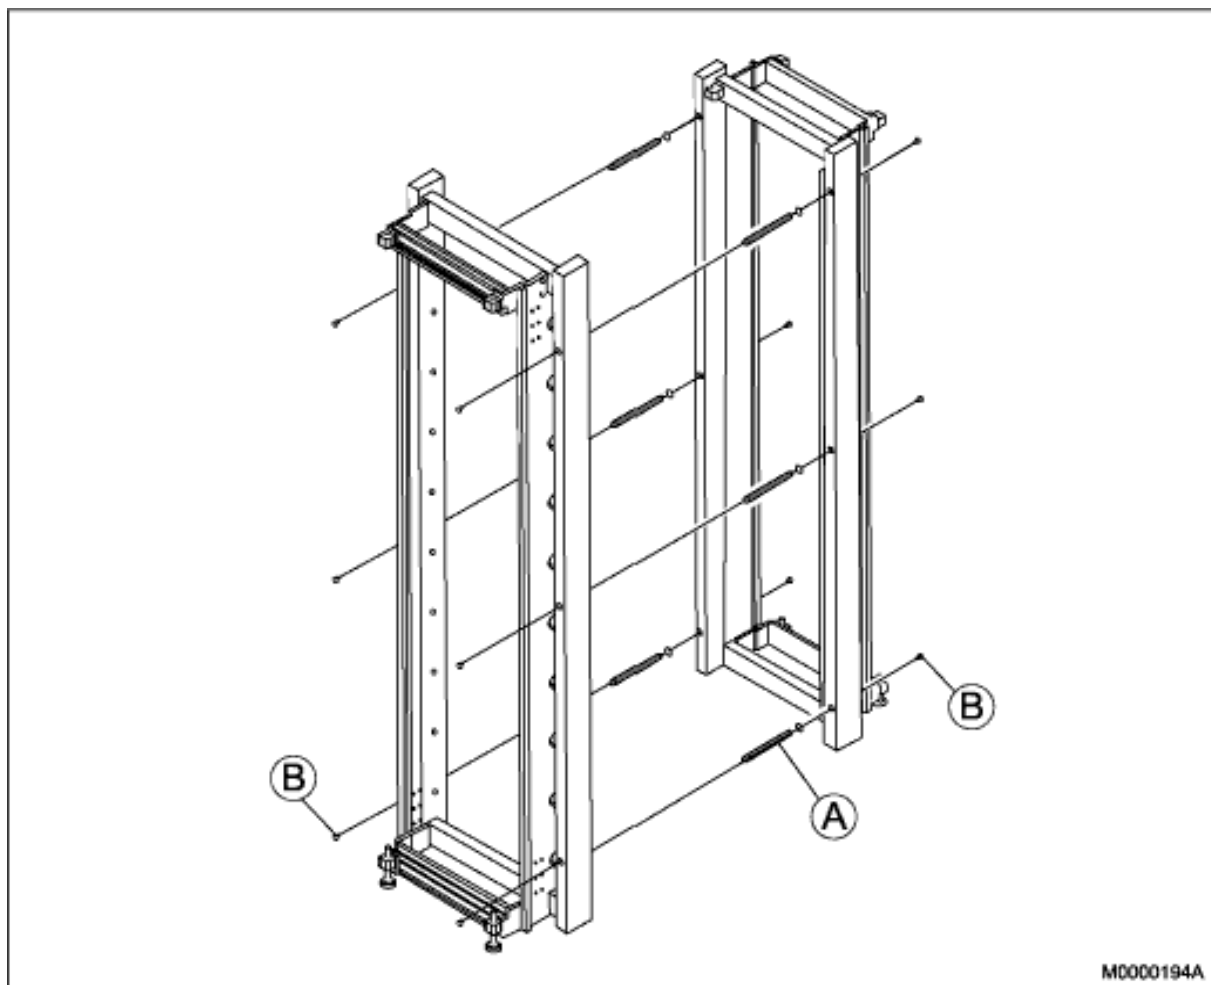

Figure 10: Fastening the Cabinets Back-to-Back
1. Position the two cabinets back-to-back, see Figure 10:Fastening the Cabinets Back-to-Back on page 17
3. Fasten the two cabinets back-to-back with six guide pins (A) and twelve screws (B).